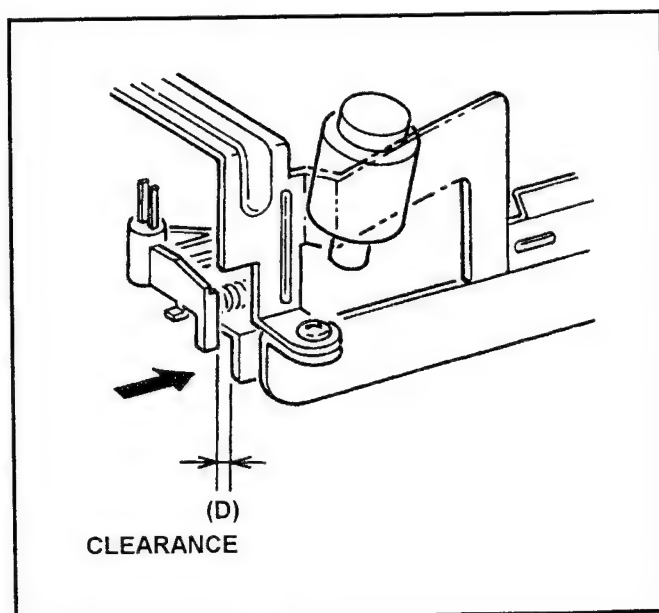

Fig. 6-15-2 Cleaner Solenoid Position Adjustment
2. Observe the clearance (D) between Cleaning Arm Unit and Cleaner Base Plate as shown in Figure 6-15-2. And make sure that it is within 0.5 to 0.7mm.
3. If not, loosen the 2 screws (A) and adjust the position of Cleaner Solenoid Unit by moving arrow direction (C⇒C) using the Eccentric drive so that the clearance (D) is within specification. And tighten the 2 screws.